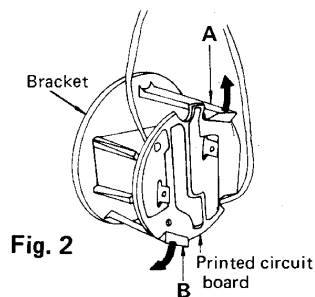

Fig. 2
4. Spread the two tabs (A and B) of the bracket in the direction of the arrows and remove the printed circuit board as in Fig. 2.